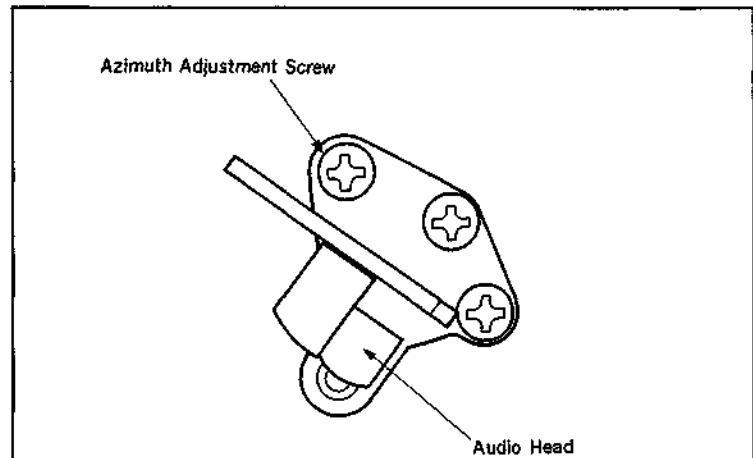

Fig. 1
- (3) Turn the azimuth adjustment screw until the resurge waveform on the oscilloscope meet the specification 1. (Fig. 1, Fig. 2)